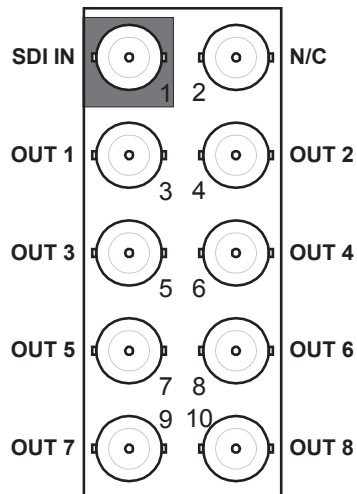

Figure 2.2 Cable Connections for the 8320AR-300 Full Rear Module
- 8320AR-300 Full Rear Module — Each rear module occupies two slots and accommodates one card. This rear module provides an SDI input, and eight SDI outputs via BNC connections. (**Figure 2.2**)